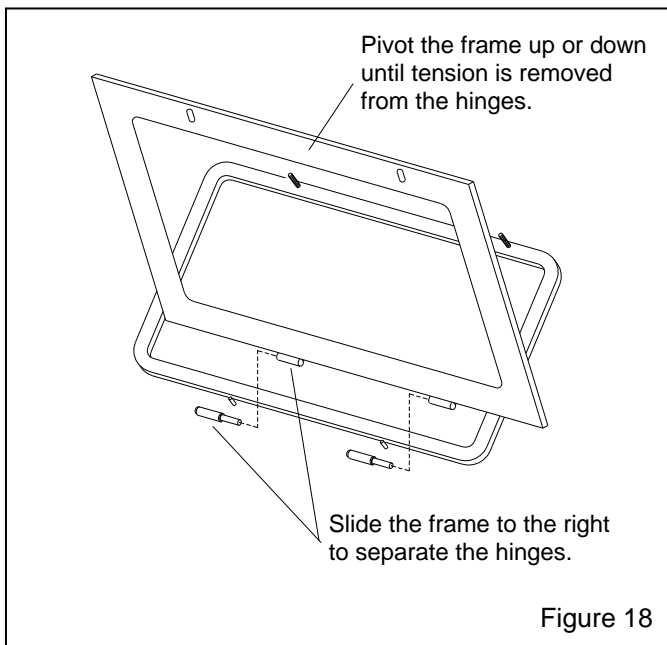

Figure 18
7.5 Window Frame Removal, Figure 18
7.5.4 To remove, slide the frame to the right. The hinges separate as shown in Figure 18.